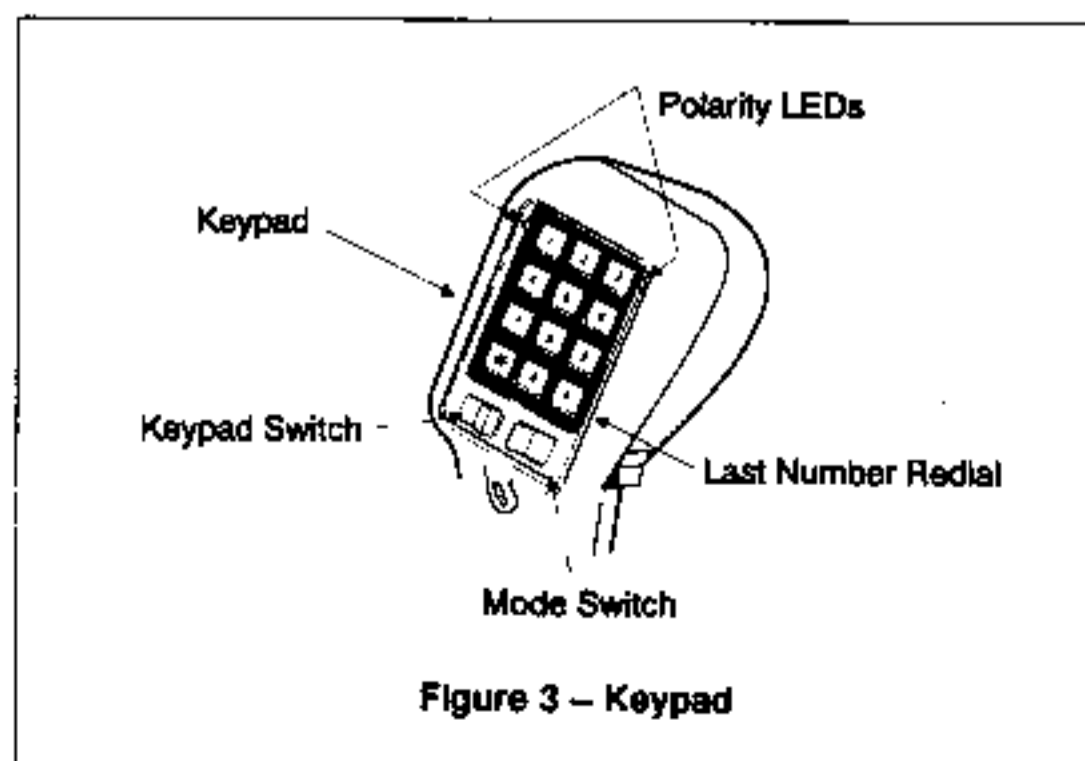

Figure 3 - Keypad
3.02 Keypad Controls and Indicators (Figure 3):